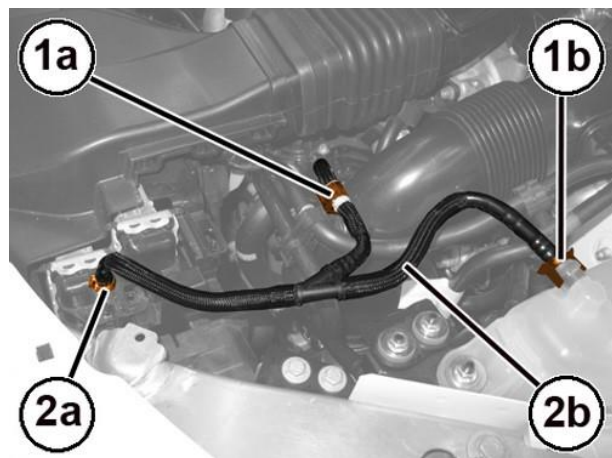

Figure 42 – Degassing Pipe
26. Open the clip (1a) and disconnect the quick coupling of the degassing pipe (1b) (Figure 42).
27. Loosen the clamp (2a) and disconnect the degassing pipe (2b) (Figure 42).